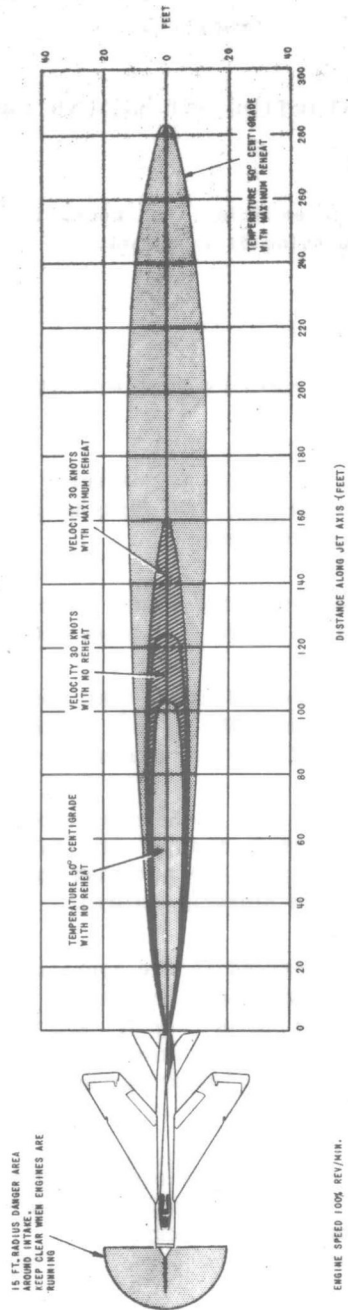

Fig. 1. Jet efflux danger area
(4) Apply the parking brake and check that the brake pressure gauge (parking) reads not less than 2000 lb/in². Chock the wheels. Fit the undercarriage safety locks if they are available.
(5) Check, by inspection, that no blanks or covers (other than the pressure-head cover) are fitted, that the air intake is both clear and clean, and that all access panels other than any removed for ground-running purposes (*para.6*) are properly secured.
(6) All personnel to be engaged in the operation must be instructed regarding loose head-gear and pocket contents, the avoidance of air-intake and jet-efflux danger areas (*fig.1*), and the interpretations of hand and other signals to be used for communication (the external inter-comm. system may be used for the latter purpose if the necessary equipment is available).
(7) Station a look-out, instructed to prevent entry into danger area of personnel and vehicles, in such a position that he is, and remains, within sight of the occupant of the cockpit.